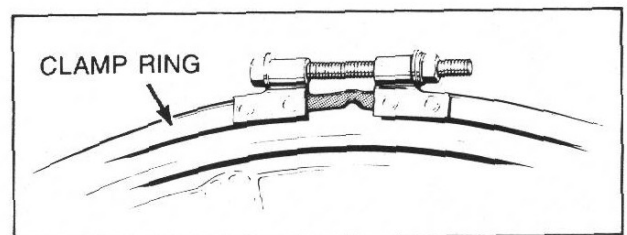

Figure 38
- l. Remove clamp screw, nut and washers holding clamp ring to rear tub head assembly, *Figure 38*.